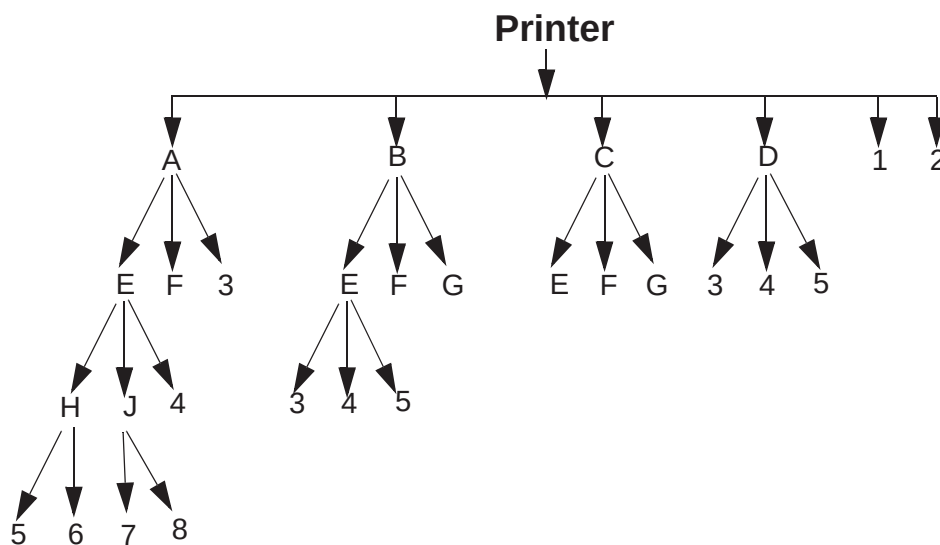

Figure 8-1: Graphical Representation of the different Subassemblies and parts
- An alphabet is assigned to the main assemblies of a printer and each subassembly under the main assembly. See Figure 8-1.
A natural number (1,2,3.....) is assigned to the standalone parts (in the increasing order) in the chapter. See Figure 8-1.